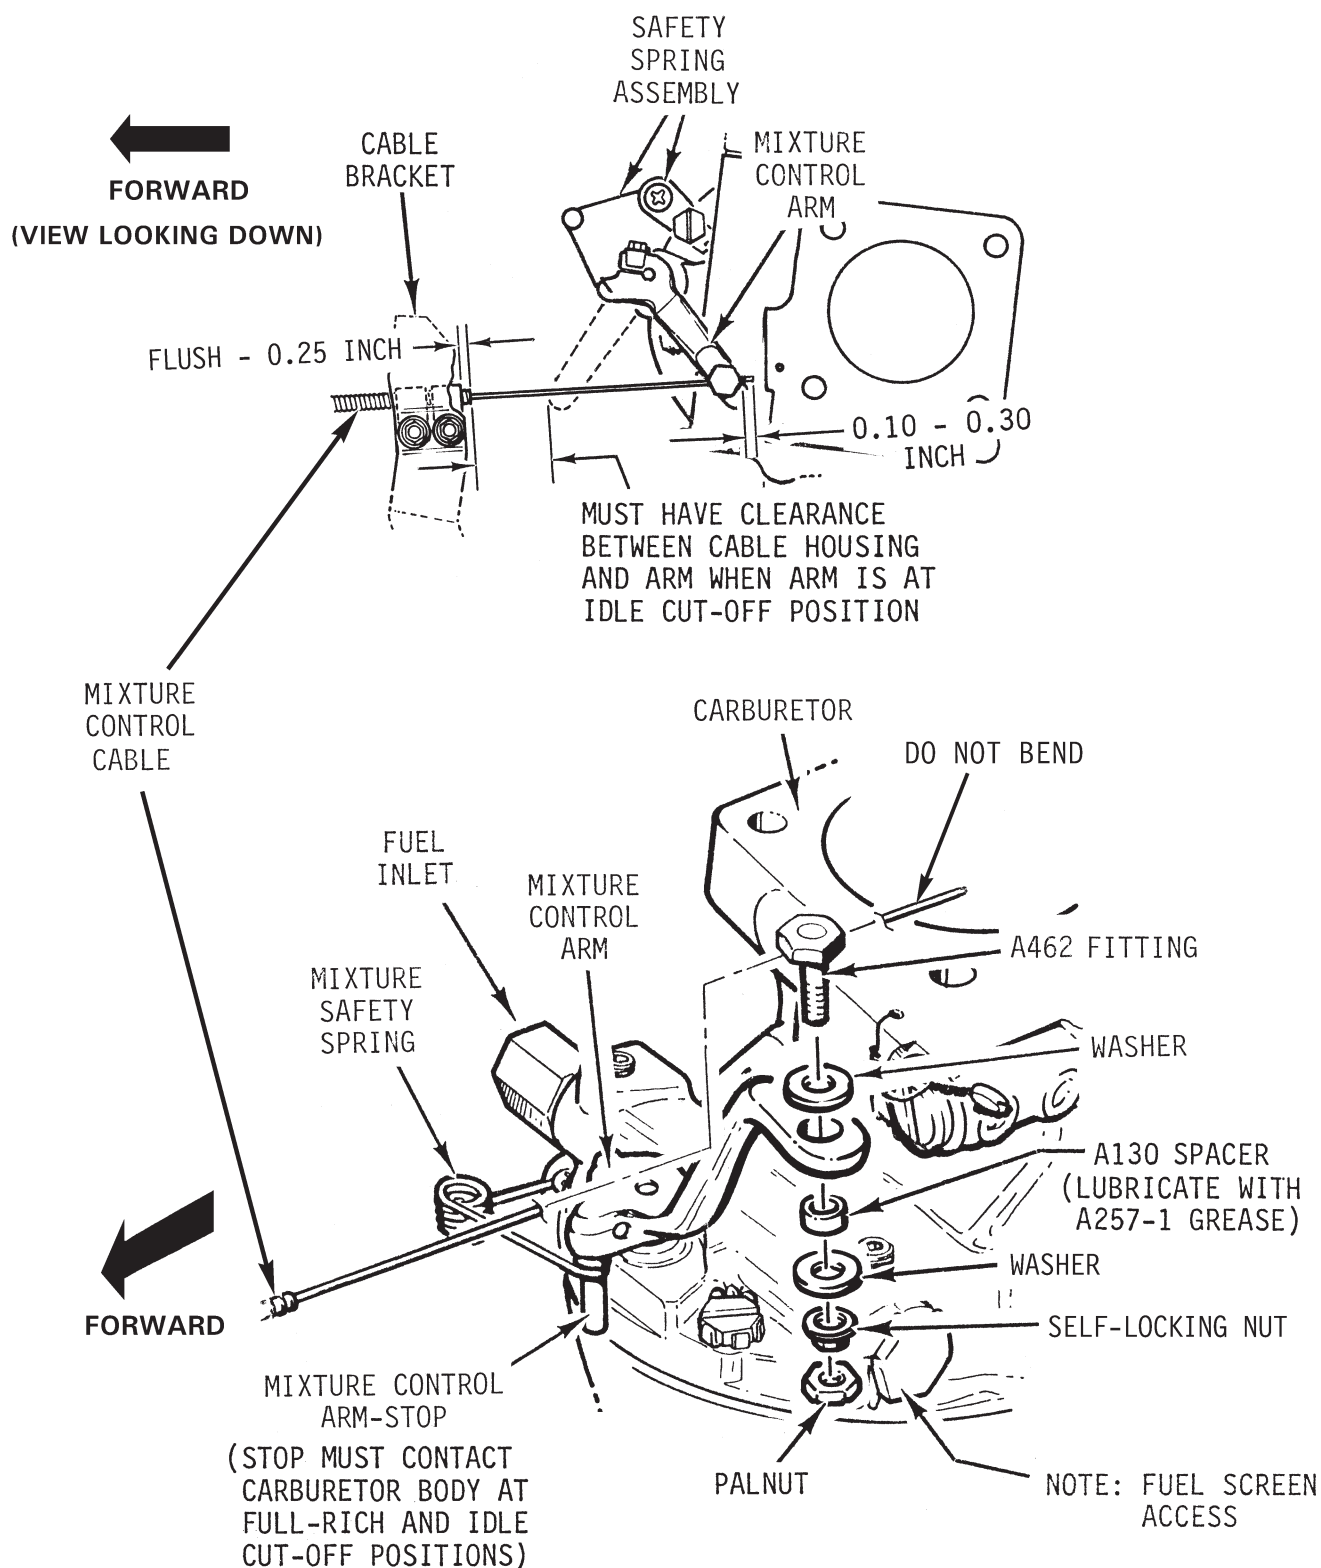

FIGURE 6-6 O-540 MIXTURE CONTROL INSTALLATION
4. Connect mixture control cable to carburetor (see Figure 6-6) and carb heat control to air box slider valve. Rig each control for 0.03-0.10 inch clearance under knobs when fully depressed. Verify full travel of mixture arm and carburetor heat slider valve.